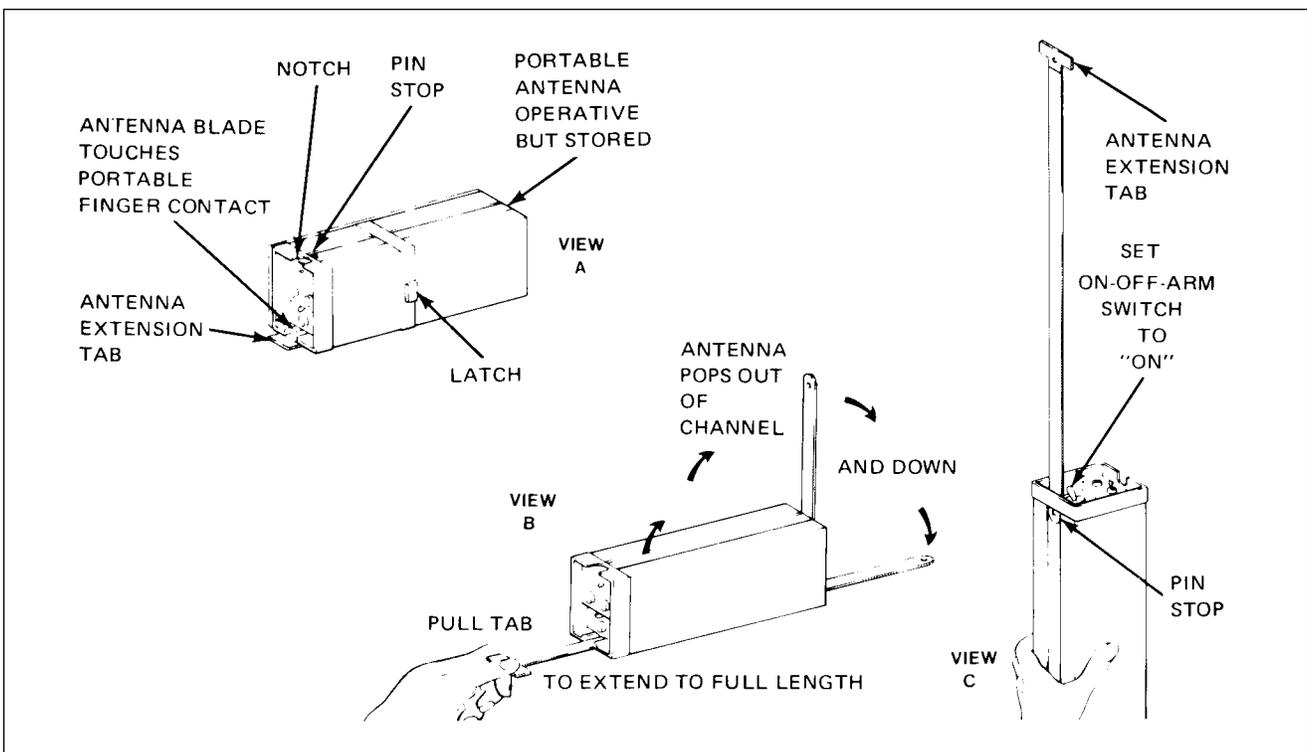

Figure 23-1. ELT Portable Folding Antenna (Narco)
**BATTERY REMOVAL AND INSTALLATION (NARCO).** (Refer to Figures 23-1 and 23-2.)